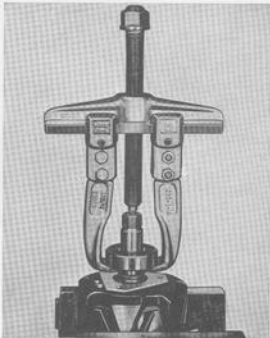

Fig. 3-40. Removing bearing
2. Pull the bearing off with a claw puller, see Fig. 3-40.